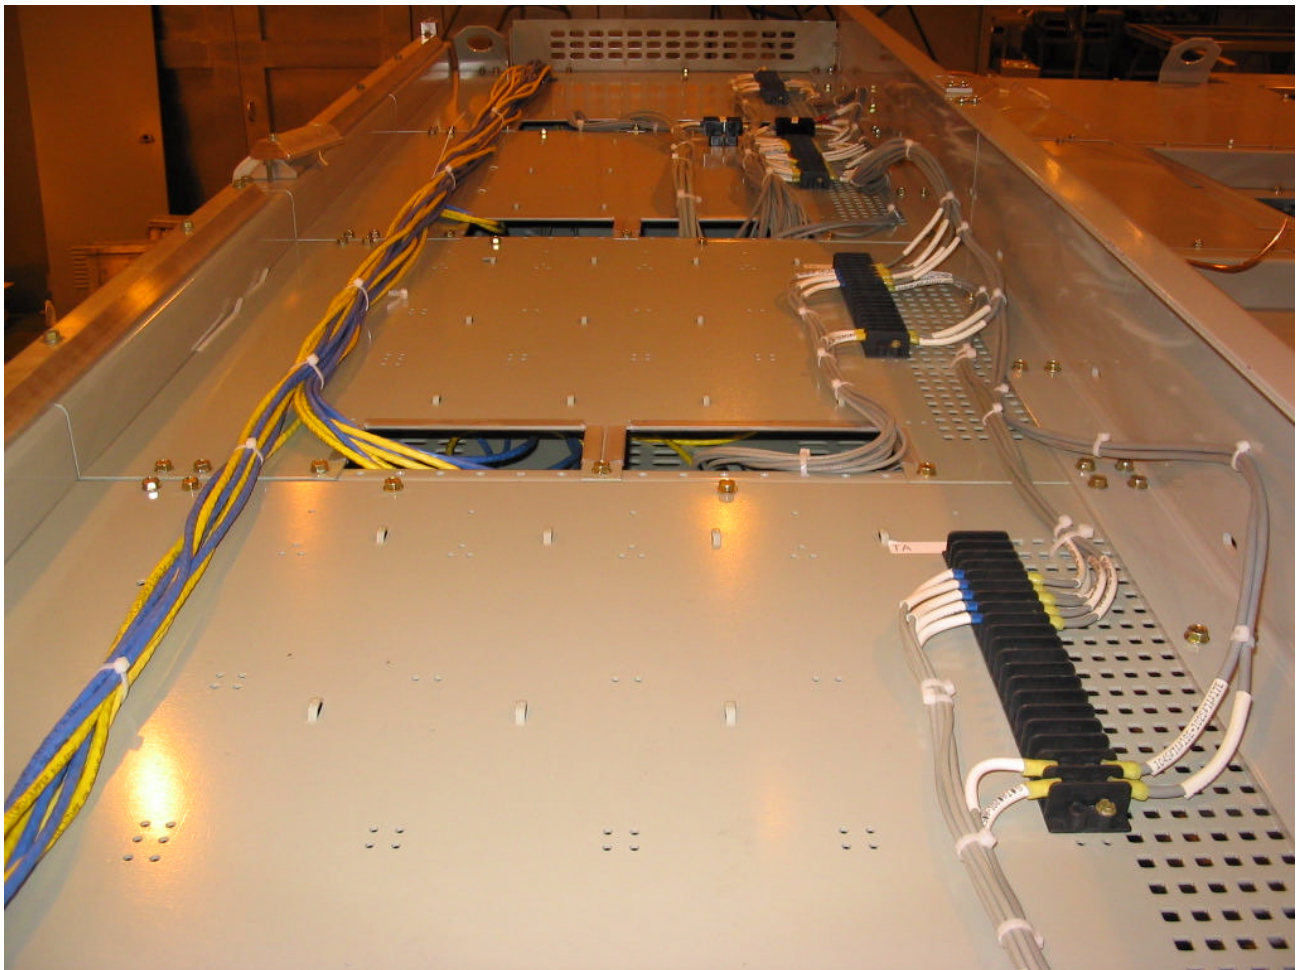

Fig. 4-14. Interconnect control wiring and Ethernet cables in the wiring trough on top of the equipment
- 6. INTERCONNECT ENTELLISYS CONTROL AND COMMUNICATION WIRING** - Interconnection of control wiring across shipping splits is accomplished by connecting to terminal blocks located in the cross-section wiring trough on top of the equipment shown in Fig. 4-14. Ethernet cables are connected by similarly routing them across the top of the equipment and down the gear, between the compartment side sheets.